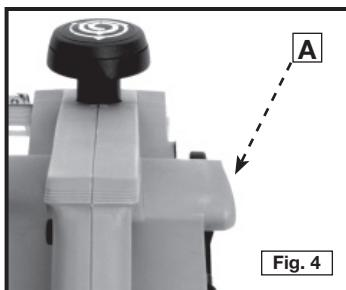

Fig. 4
The plane is equipped with a chip exhaust port (A) Fig. 4, which can expel a large volume of chips and saw dust.